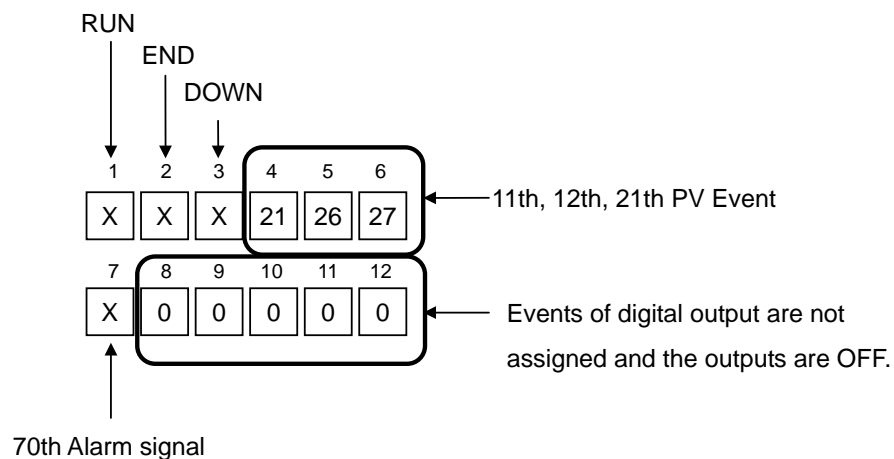

Fig. 3.10.1 The part to arrange events to digital outputs on FIX SET screen of User Manual
1. When Fix control and synchronous mode, if you need 3 Mode events (RUN, END, DOWN), 3 PV events (11,12, 21), and 1 Alarm event. You can arrange signals like below. And like figure 3.10.1, the event part has to be set in Fix Set screen.
| 4 | 11 | PV Event PV/ABS/LOW(CH 1) | Set the event number like Figure 3.10.1 in Fix Set screen.(Refer to User manual) |